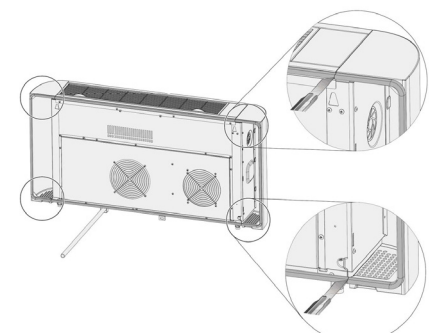

Figure 10
3. After applying, use the knife to cut the sealing strip at the joints between the left and right corner cover plates and the machine body (a total of 4 places) so the end plates can be opened later, as shown in the enlarged callout diagram. Figure 10.